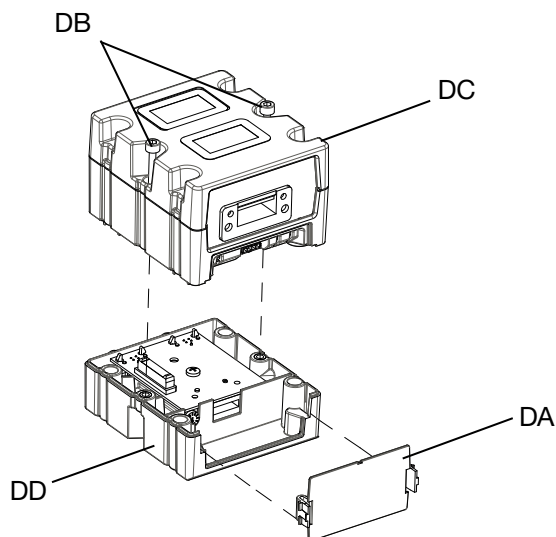

FIG. 13: Disassembling the CGM
- Turn OFF the System Disconnect Switch (AL).
- Remove the access cover from the CGM (DA). Loosen and save the two M5-0.8 x 45 mm x screws (DB), and remove the CGM (DC) from the base (DD). See FIG. 13.